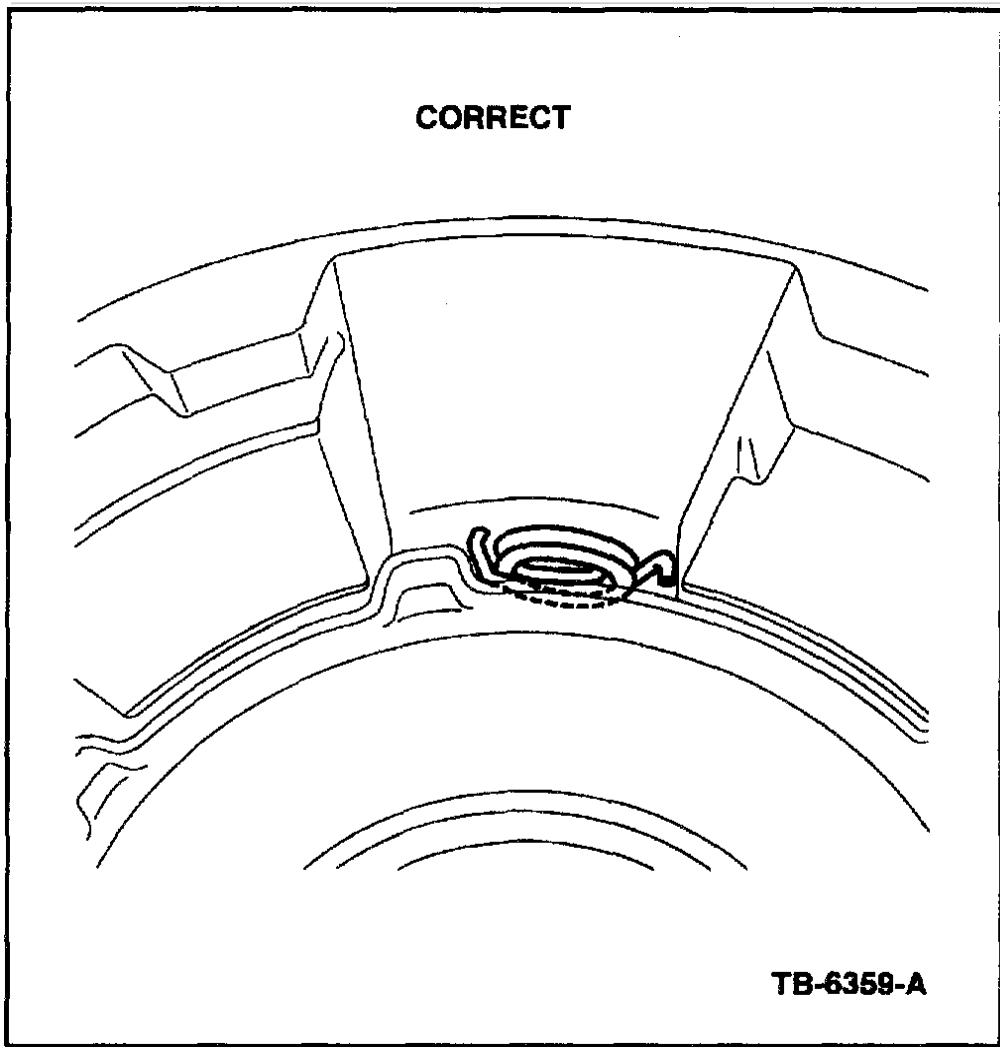

Figure 1
6. **Note** the position of the Planet Support Spring. Compare to the correct installation which is illustrated in Figure 1. One tang of the Planet Support Spring should be loaded against the transmission case. The other tang should be loaded against the Planetary Gear Support.
8. Install the Planet Support Spring in the position illustrated in Figure 1. Use a flat/wide tool, that will apply equal force across the spring. This will ensure the spring is installed squarely with the tangs loading the Transmission Case on one side and the Planetary Gear Support on the other.